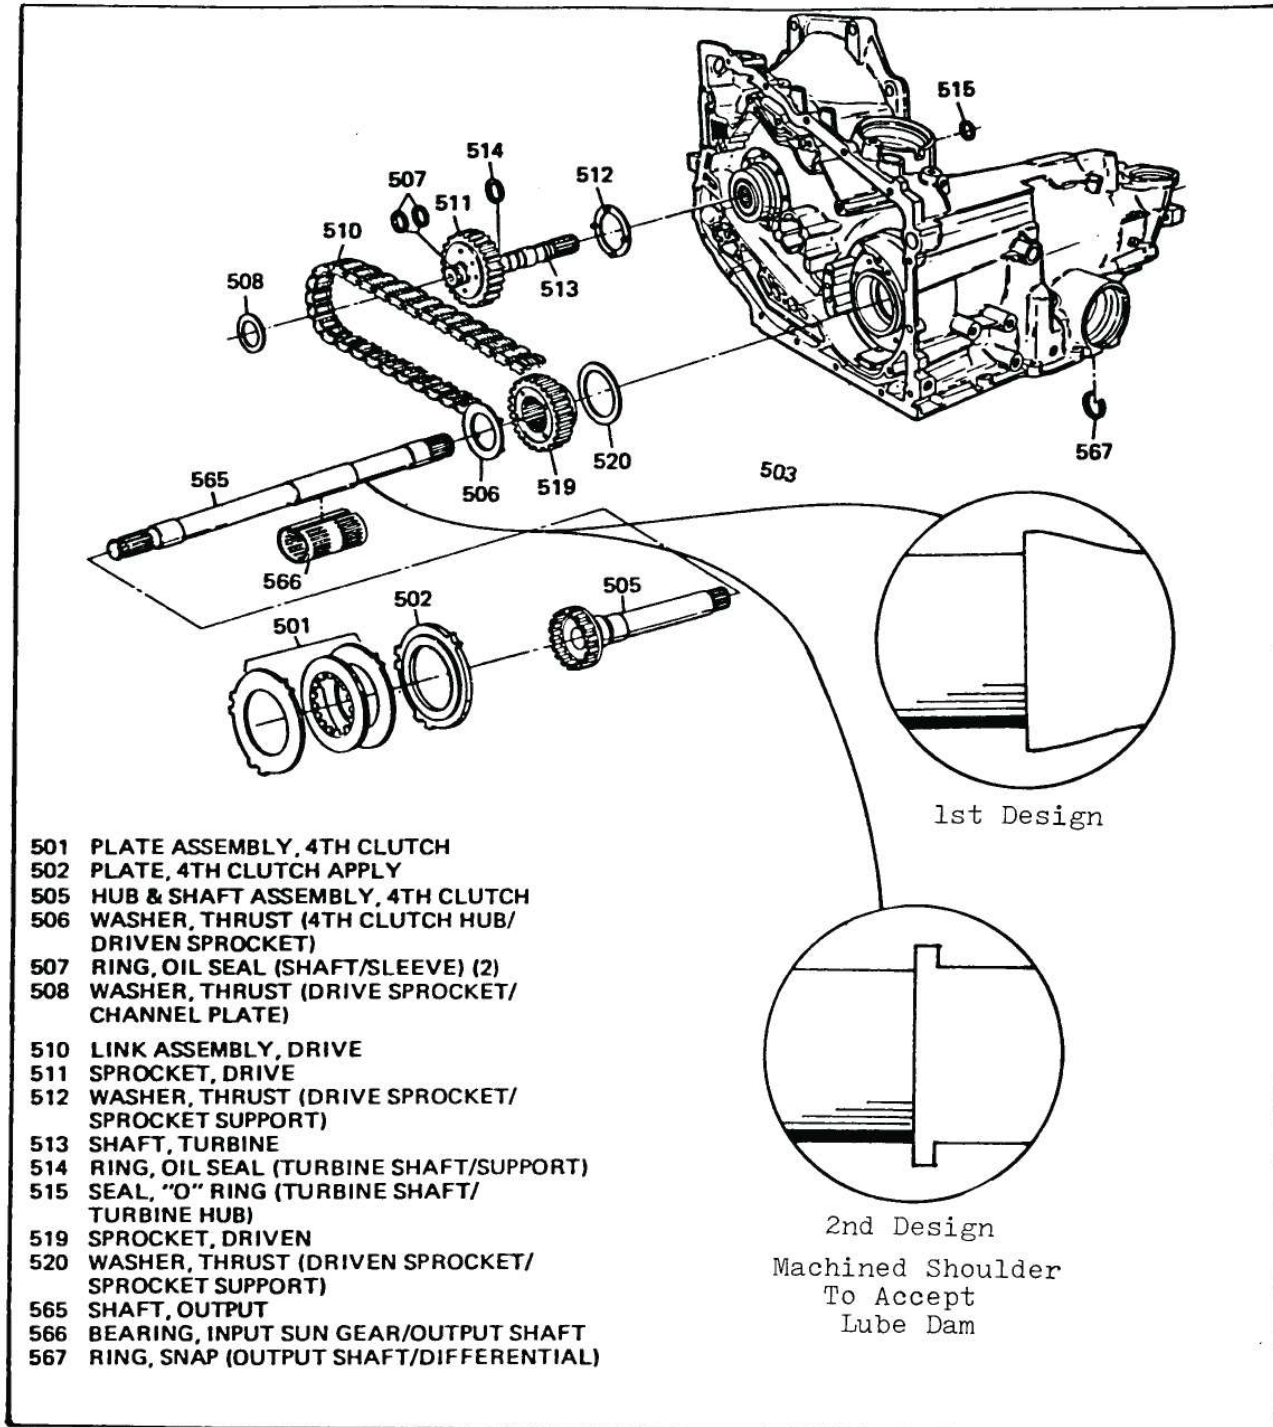

Figure 45
Reason: Improved durability by retaining more lube oil on output shaft bearing(566) (Figure 45). This bearing rides inside of the input sun gear.
- 2) Output Shaft(565) (Figure 45) - Machined shoulder on output shaft to accept added lube dam (See Inset, Figure 45).
- * 8) Output Shaft(565) - Shoulder machined to accept lube dam between the carriers (See Figure 45).